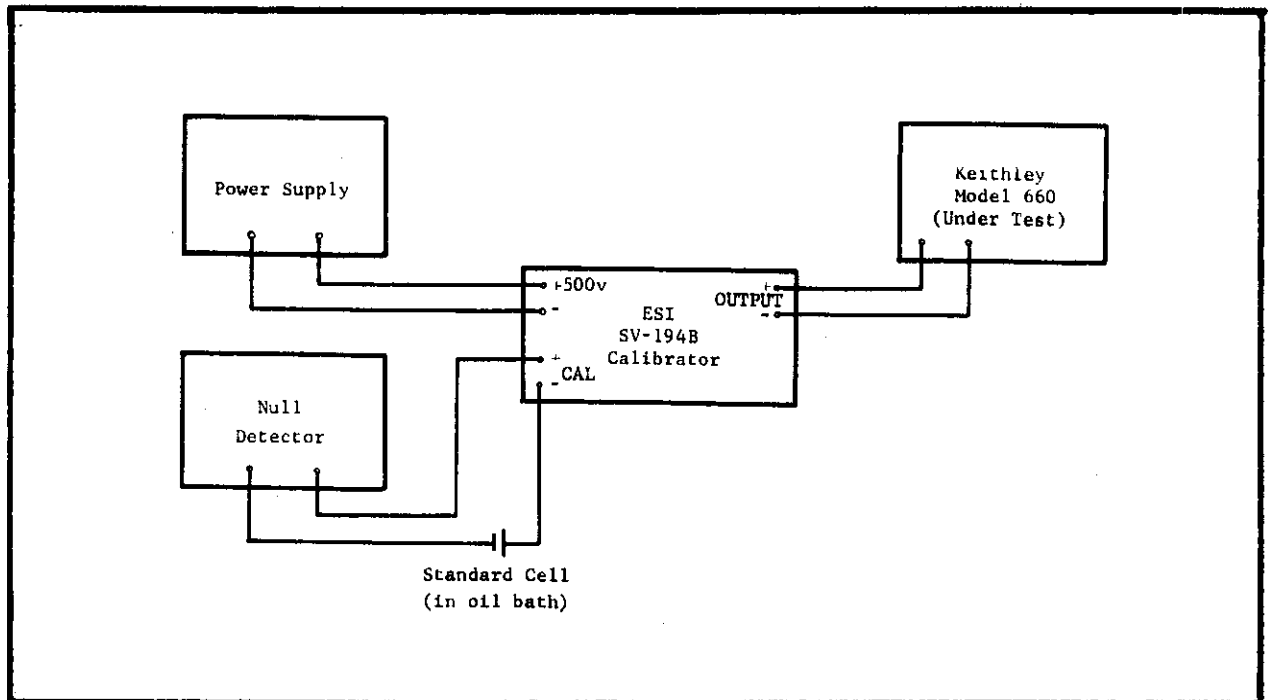

FIGURE 14. Block Diagram for Model 660 Range Calibration. Fully guard entire system to prevent leakage errors. See Table 5 for recommended equipment.
1. Set up the system shown in Figure 14. The standard cell should be certified to 10 ppm. Use the dial correction factors found for each output. If the system accuracy was properly determined, the input voltage to the Model 660 should be correct to 20 ppm.